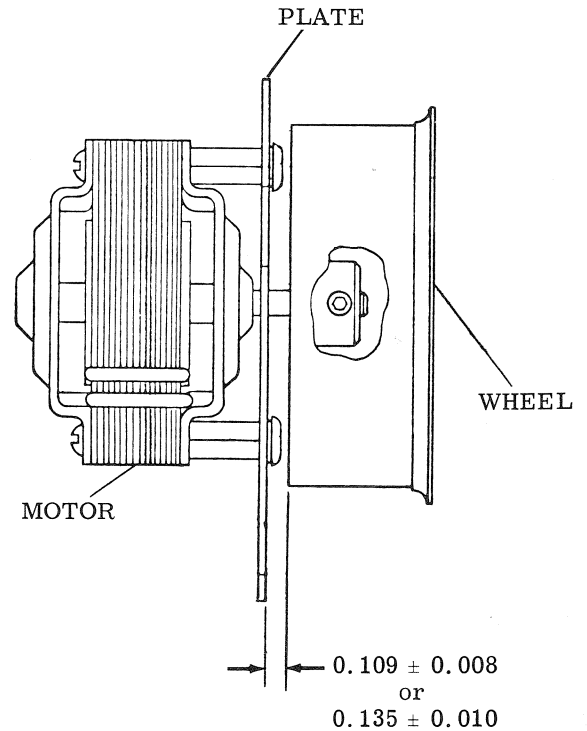

Figure 3-23. MOTOR MOUNTING PLATE ASSEMBLY
10. Motor Mounting Plate Assembly (Figure 3-23)